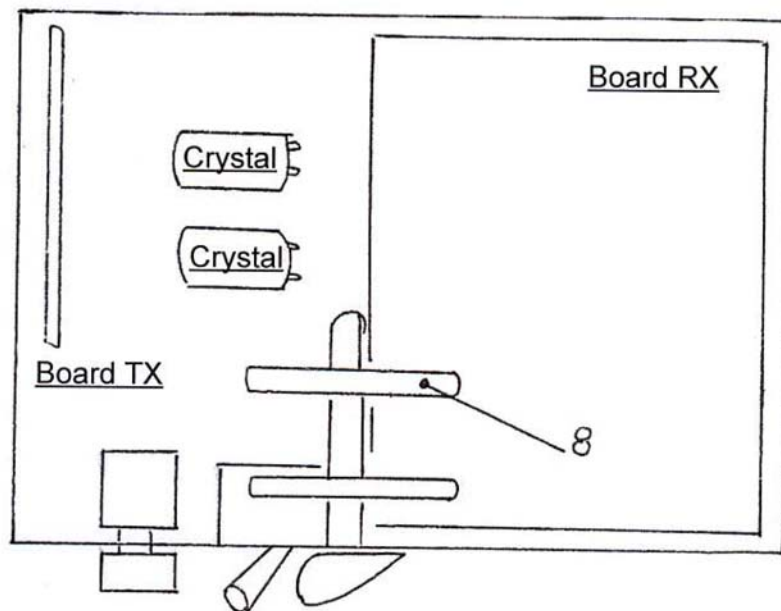

Figure 13 Design of the multi-band SQT
Figure 13 shows design of the multi-band SQT. The design differs from one-band SQT only by new-installed miniature switch (item 8).